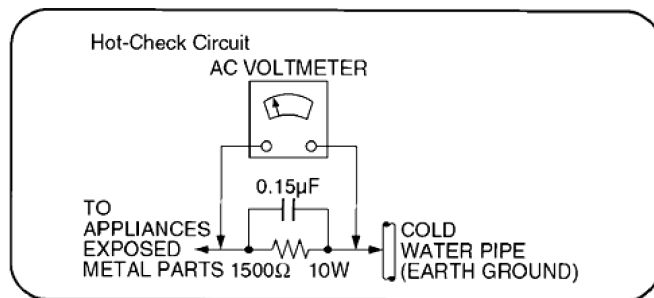

Fig. 1
1.1.2. Leakage Current Hot Check (See Figure 1)
2. Connect a $1.5k\Omega$, 10 watts resistor, in parallel with a $0.15\mu F$ capacitor, between each exposed metallic part on the set and a good earth ground such as a water pipe, as shown in Figure 1.
2. To prevent the breakdown of the laser diode, an antistatic shorting pin is inserted into the flexible board (FFC board). (Fig. 1)